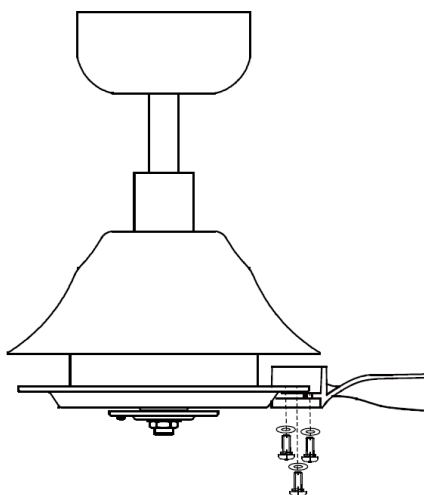

Fig. 8
- Insert the blade screws through the blade then secure the blade to the motor by tightening the 3 screws. Fig.8